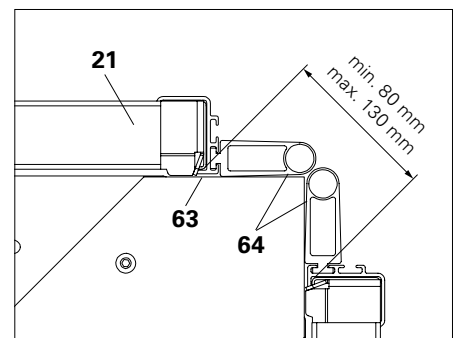

Fig. C2.12e
Mount Draw-In Profile LPS 18/93 (64) on the inside on both sides. (Fig. C2.12e)